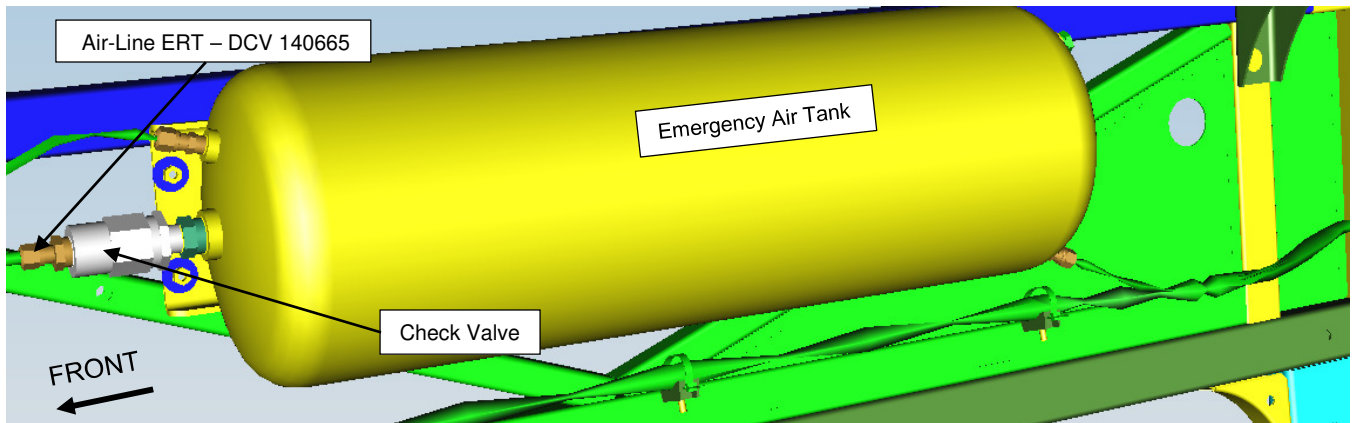

Figure 1: Emergency Air Tank
5. Disconnect the 3/8” air-line labelled ERT- DCV 140665. Figure 1.
6. Remove and discard the check valve. Figure 1.